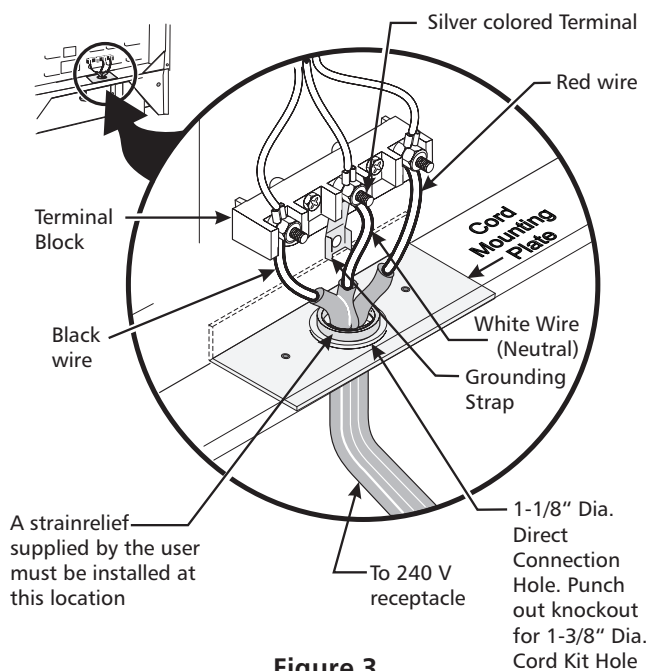

Figure 3
NOTE: Range is shipped from factory with 1 1/8" dia. hole as shown in figure 3. If a larger hole is required, punch out the knockout.
(The 3-conductor cord or cable must be replaced with a 4-conductor cord or cable where grounding through the neutral conductor is prohibited in new installations, mobile homes, recreational vehicles or in other areas where local codes do not permit neutral grounding) If local codes permit connection of the frame grounding conductor to the neutral wire of the copper power supply cord (see Figure 3):
4. Replace the 3 nuts on the terminal block (see fig. 3).